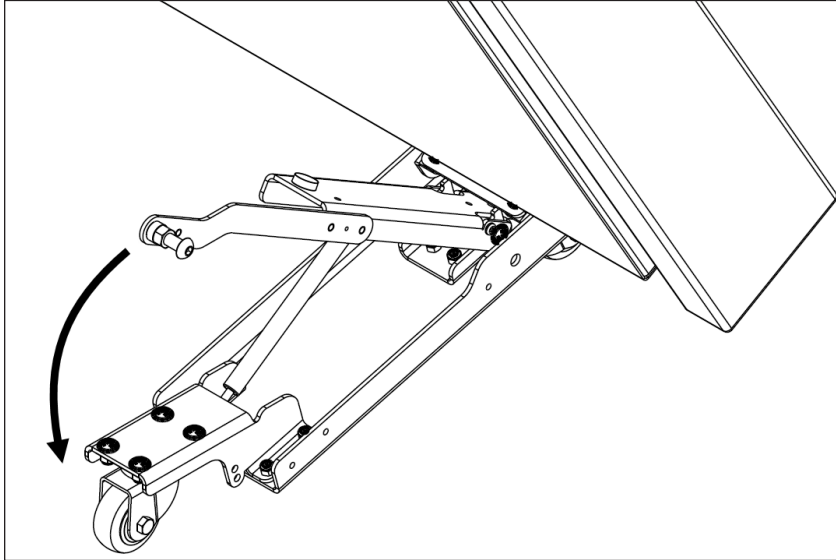

Figure 20: Pull Down Pivot Arm
3. Use the offset end of the Caster Base Tool as leverage to pull down the pivot arm and lower the right side of the table to the floor. Refer to **Figure 20**.